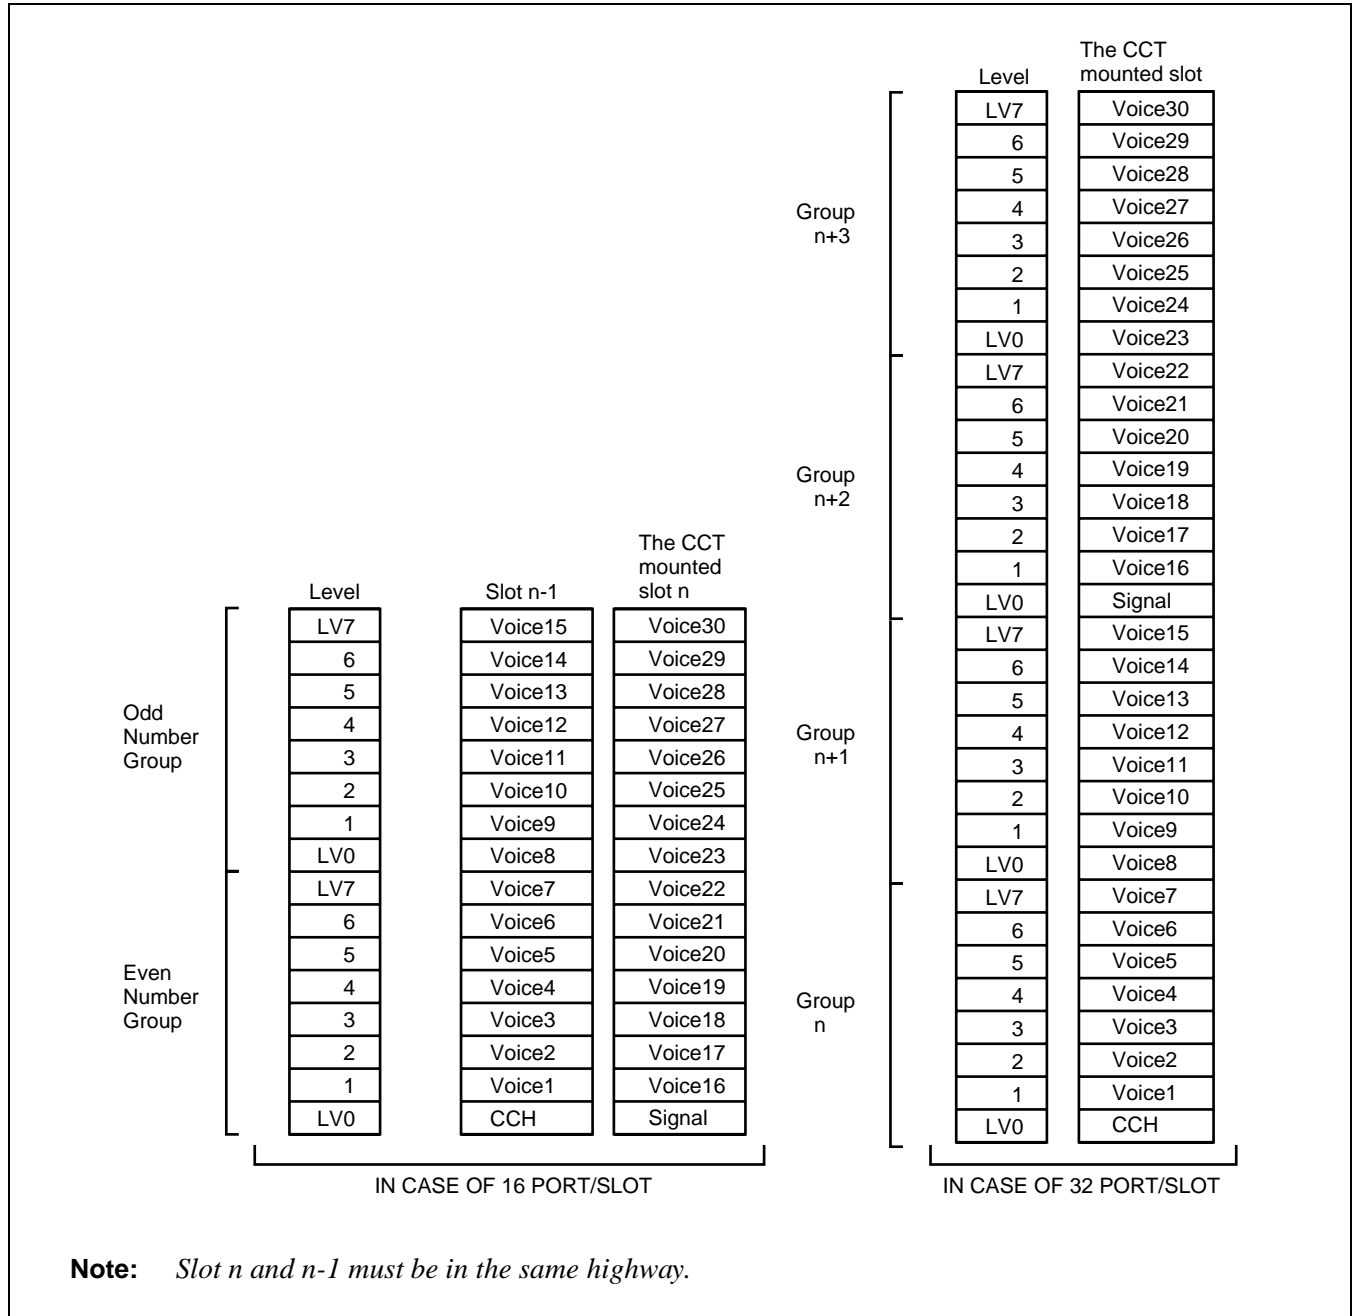
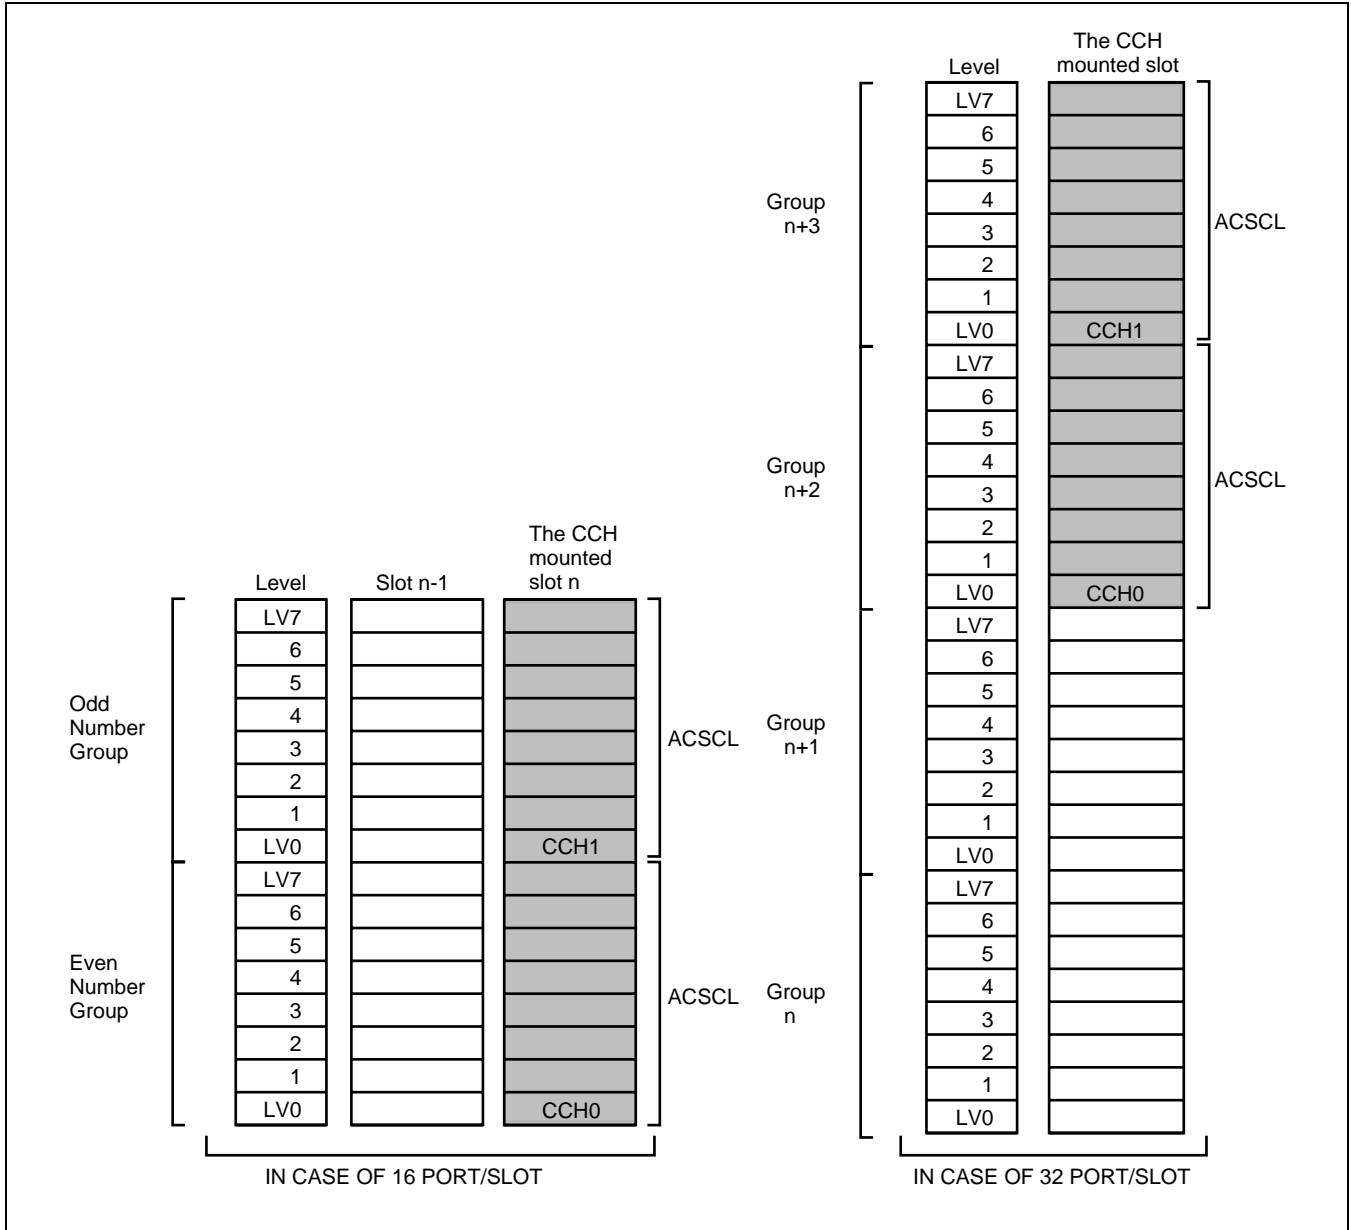

Figure 4-32 ACSCL for CCT (E1)
Figure 4-33 ACSCCL for CCH
6. The D-channel (signal channel) location should be entered in the CCH parameter as illustrated in Figure 4-32 and Figure 4-33, CCT, CCH respectively.